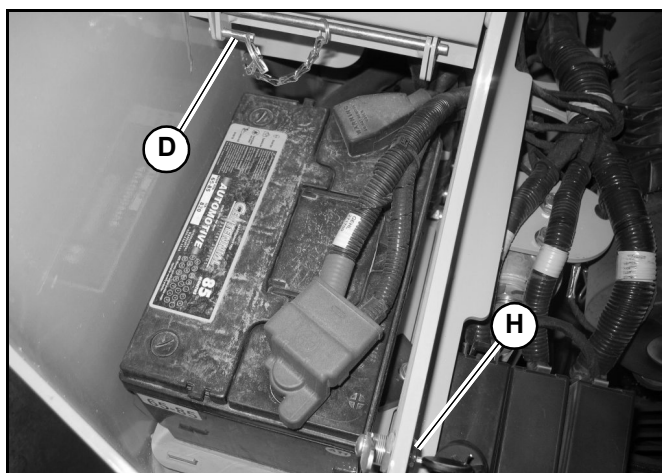

Fig. 42 – Battery Compartment
2. Using the accessory key (supplied with the ignition key), unlock (H, Fig 42) and open the battery compartment located at the rear left corner of the machine. Open the battery compartment cover and prop the cover open using pin (D).